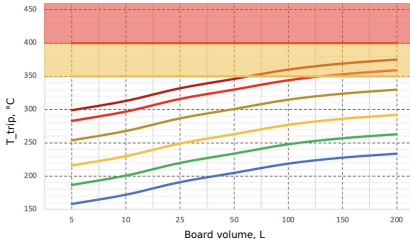

Fig. 1. Trip temperature versus board enclosure volume
1. Use the nomogram (Fig. 1) to find T_{trip} for the given volume V and selected CO_{th}.